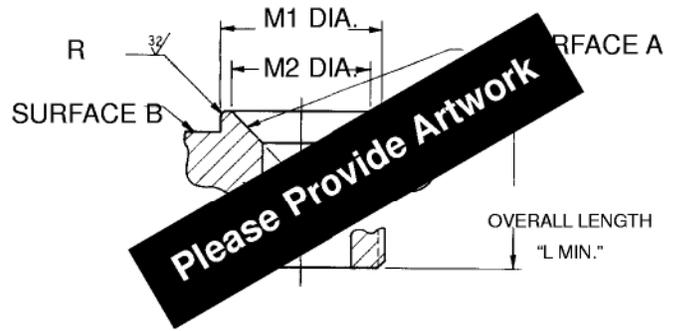

Figure 11
2. The nozzle seat can be restored by machining, if required. Critical dimensions that **MUST** be maintained are shown in Figure 11 and Table 2.
4900 Nozzle Rework Dimensions (refer to Figure 11)